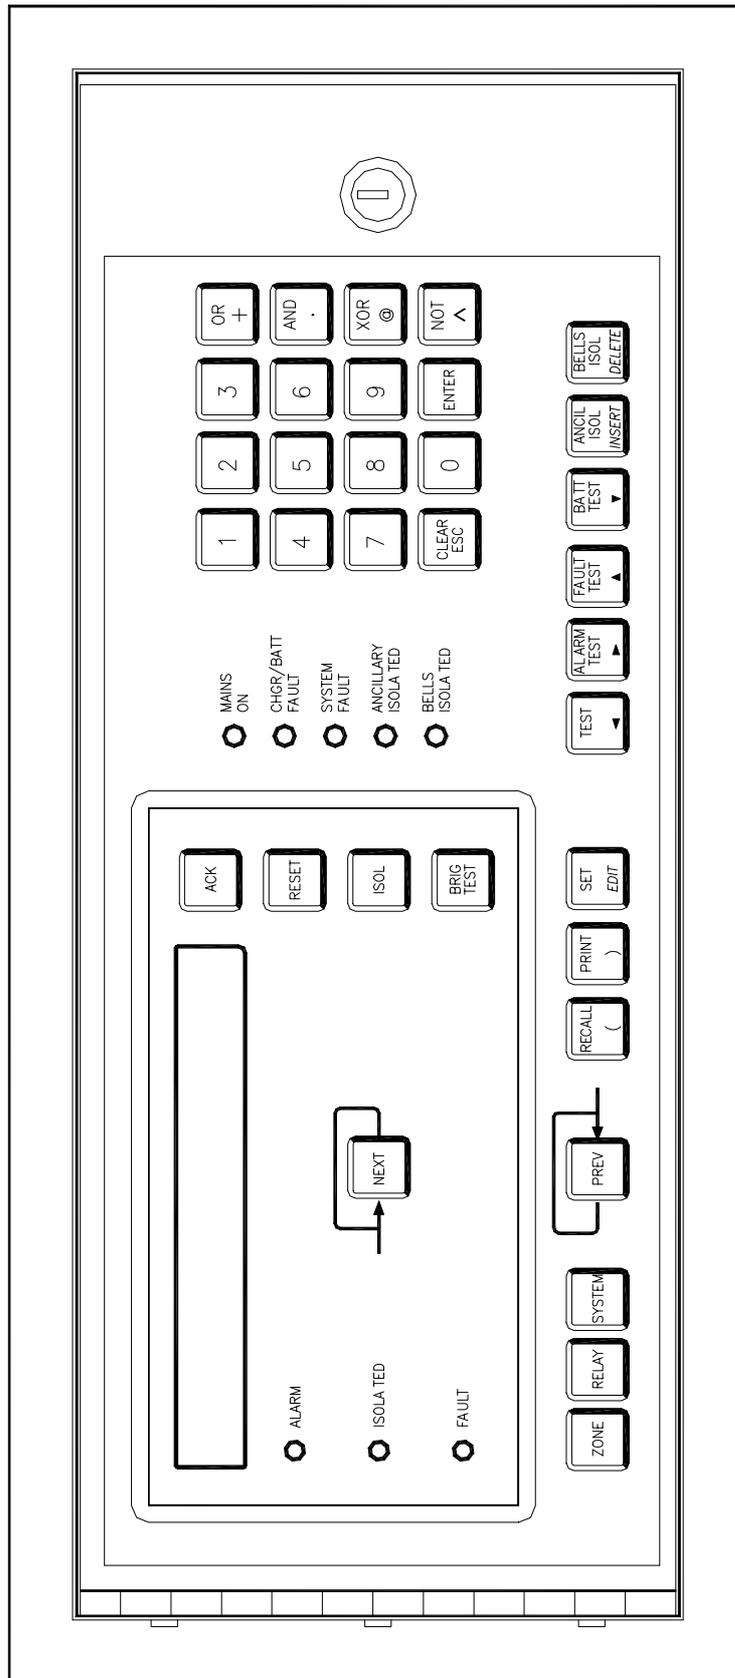

FIG 2.1.3
The FP0772 RDU (refer to Figure 2.1.3) is a flush mounted version of FP0559 and has outer dimensions of 219mm (H), 502mm (W), 75mm (D).